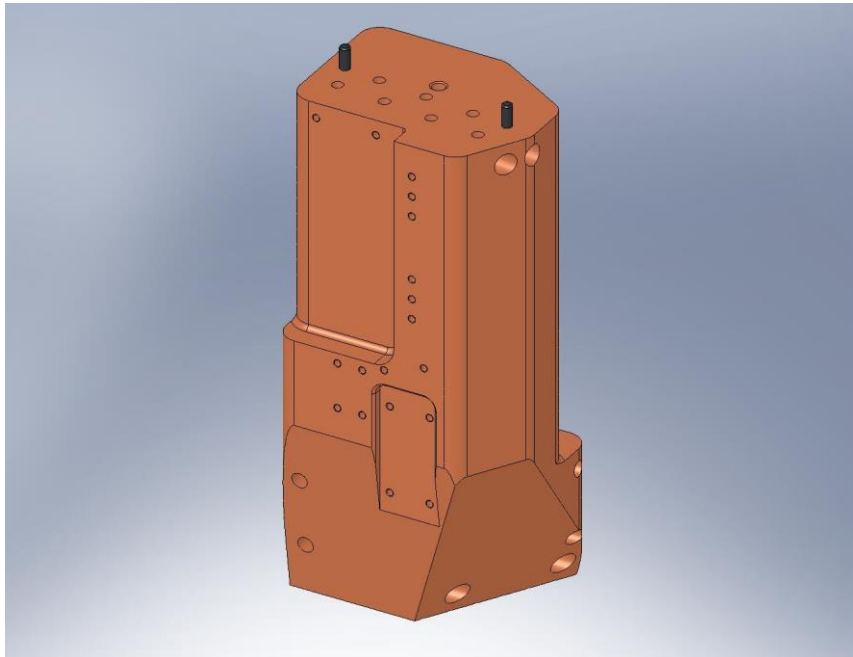
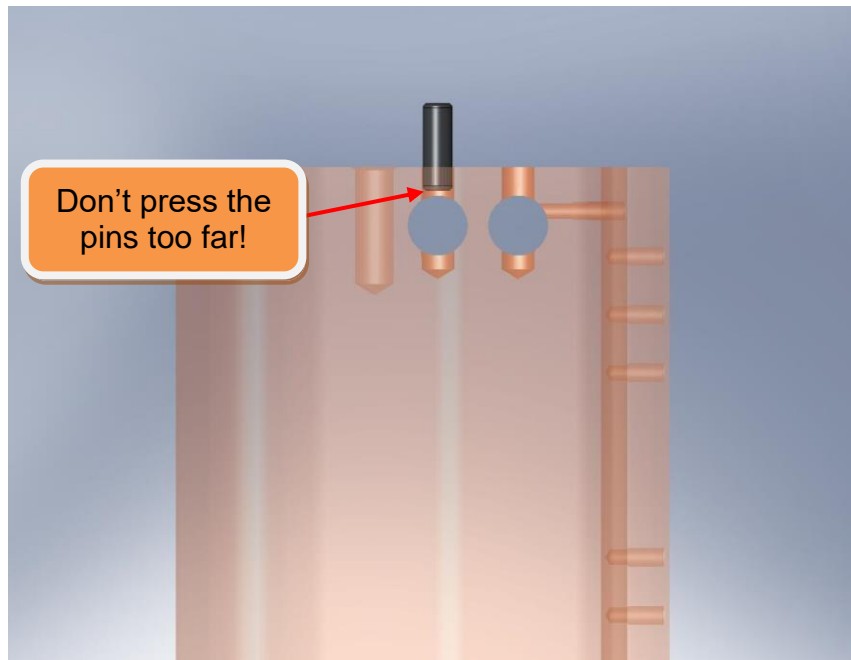

Figure 2.5. Press (2) dowel pins into top of each Support Post.
Figure 2.6. The pins must not stick into the Gang Barrel Nut holes.
- Press or hammer (6) 1/2"x1.5" dowel pins into **Stage 0 Base**. Pins should sit .45" +/- .02" above the surface of the **Base**.
- Press or hammer (15) 3/8"x1.0" dowel pins into **Stage 0 Base**. Pins should sit .50" above the surface of the **Base**.
- Install Nitronic 60 Heli-Coil threaded inserts into (3) **Support Posts**, per machine drawing D071002.
- Press (2) 1/2"x1.5" dowel pins into each of the (3) **Support Posts**, for locating **Springs**. Pins should sit about 1.10" above top surface of **Posts**, as shown in Figure 2.5 and Figure 2.6.